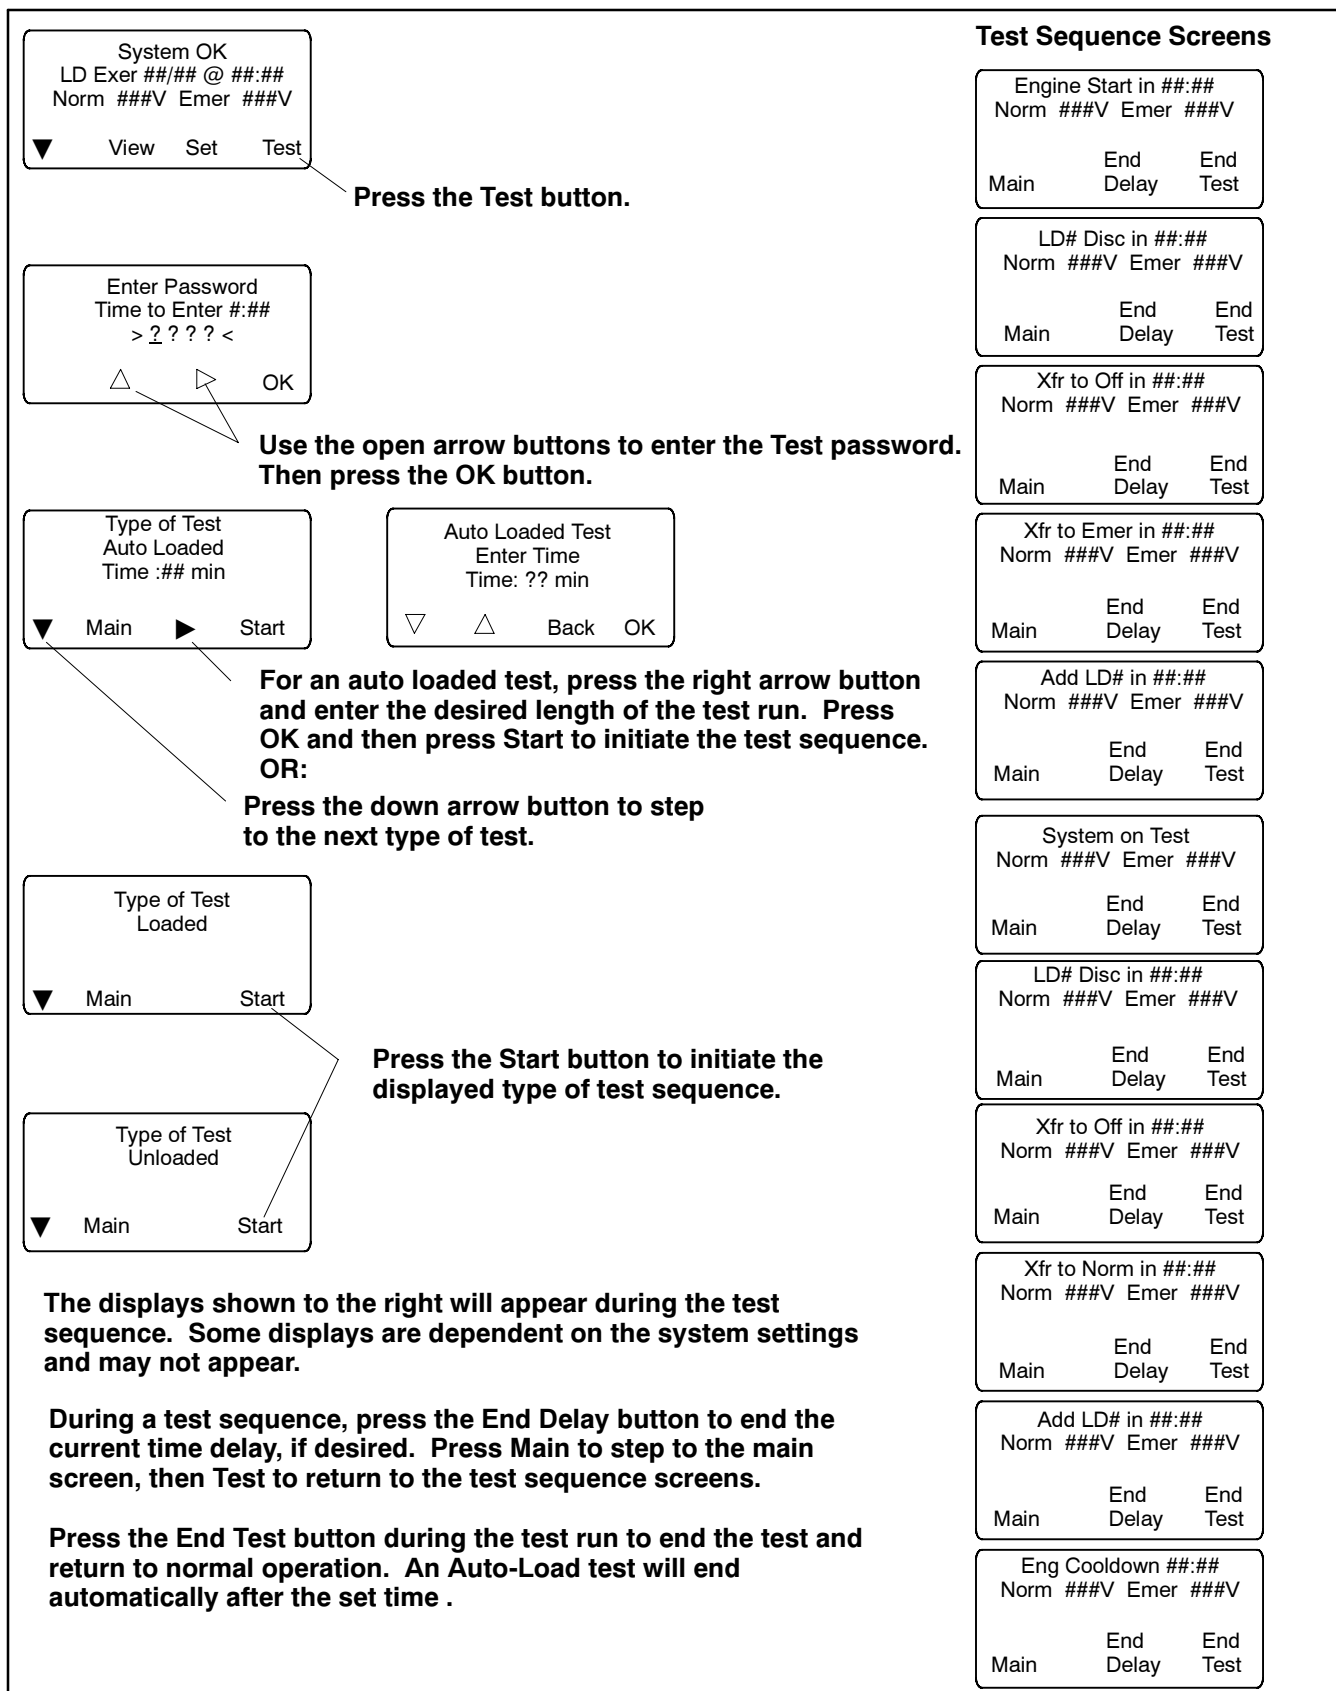

Figure 4-7 Test Sequence Screens
3. Refer to Figure 4-7. From the main screen, press the Test button. Enter the test password when prompted and press OK.